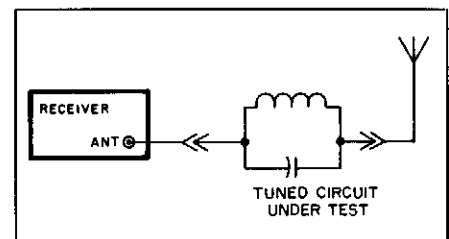

Fig 2—If the resonant frequency of an inductor/capacitor combination falls within the tuning range of your receiver, you can find resonance with this circuit.
□ You can find the resonant frequency of an inductor/capacitor combination if it falls within the tuning range of your receiver. Connect the components as a parallel tuned circuit in series with the antenna lead as shown in Fig 2. With the receiver tuned for minimum signal or noise response, the receiver frequency display shows the approximate resonant frequency of this tuned circuit.